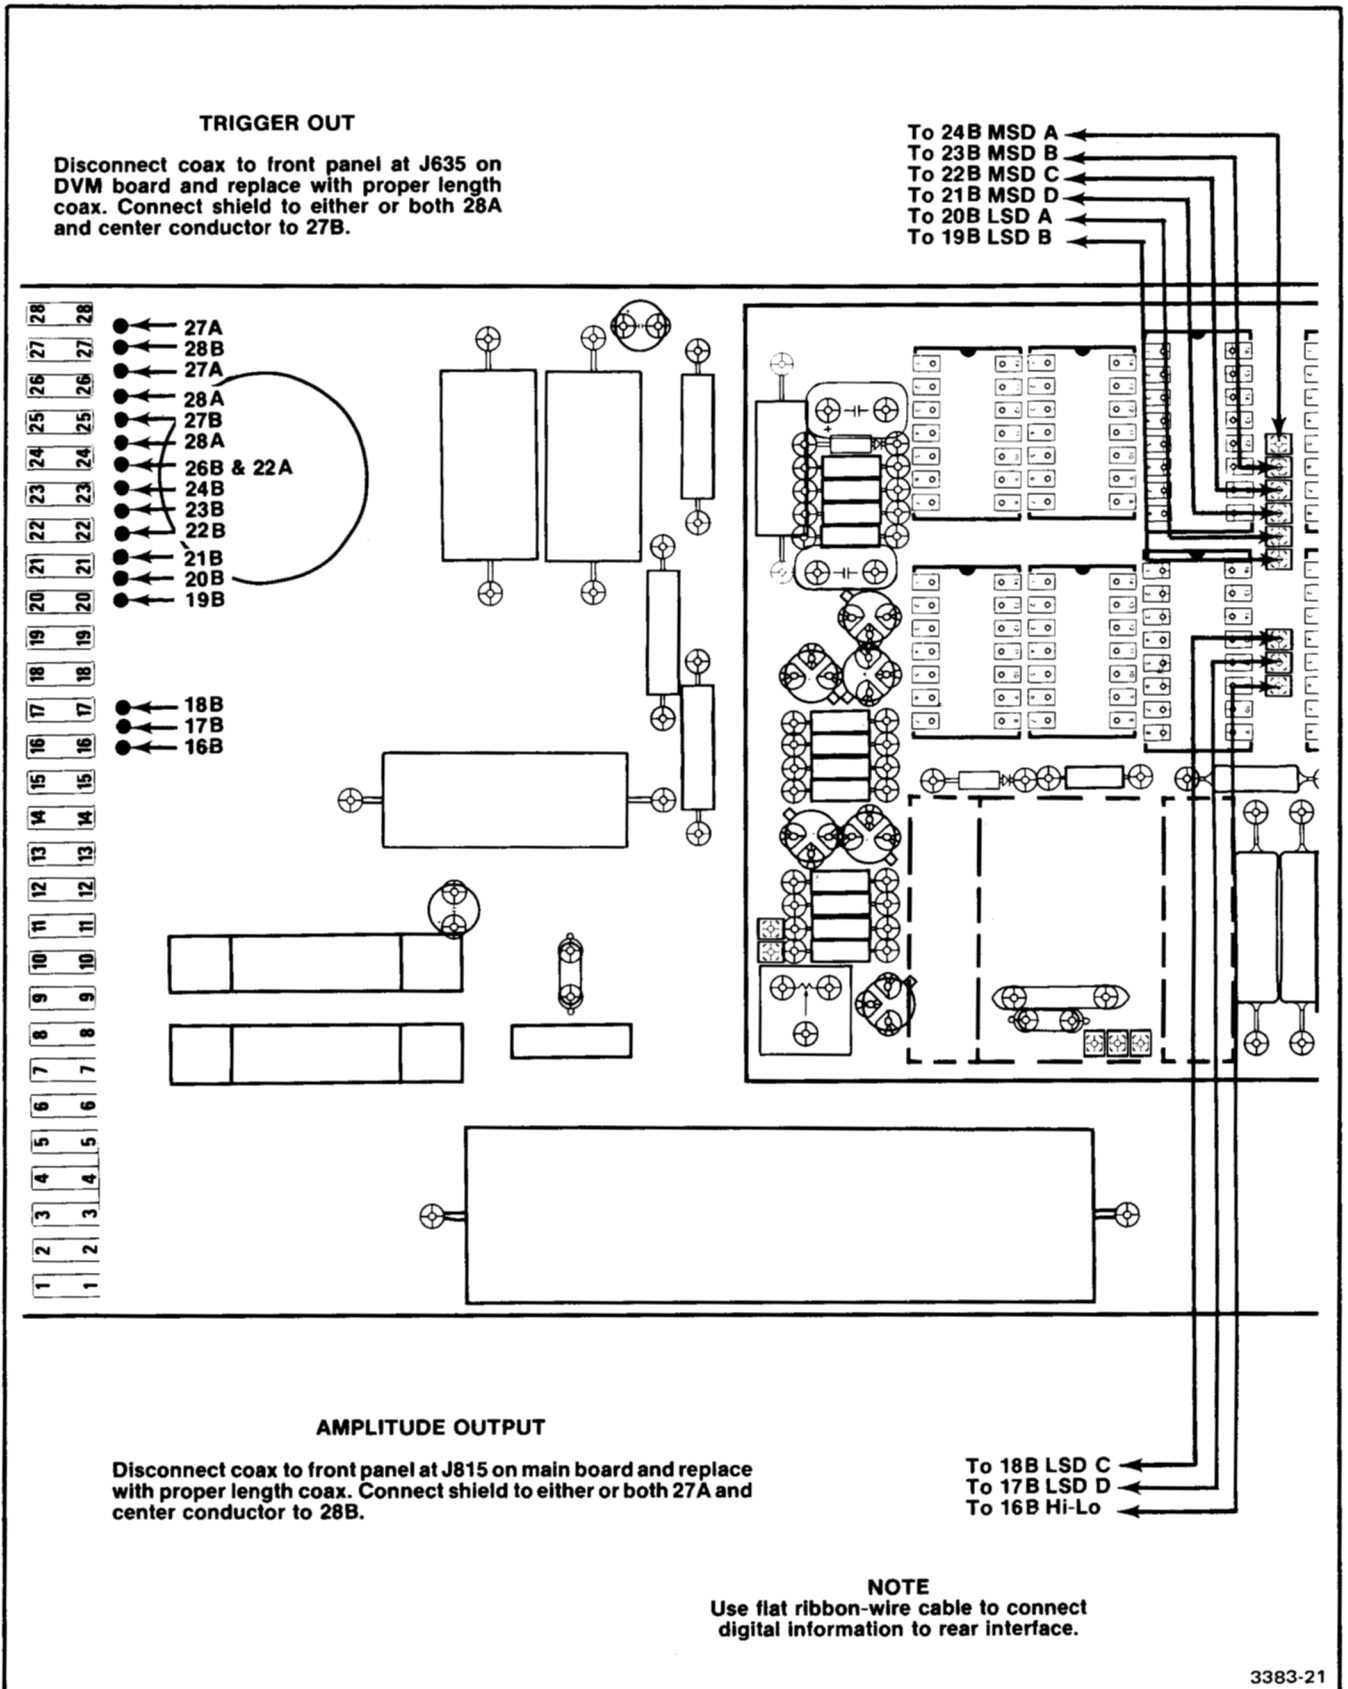

Fig. 5-2. Main interface board (partial) showing amplitude and trigger output cable connections.
See Fig. 5-2 for pictorial interface connection detail.
**MSD & LSD Outputs.** To obtain readout information at the interface, use flat ribbon-wire to connect this digital information to the through-plated holes as shown in Fig. 5-2 and according to the following list: